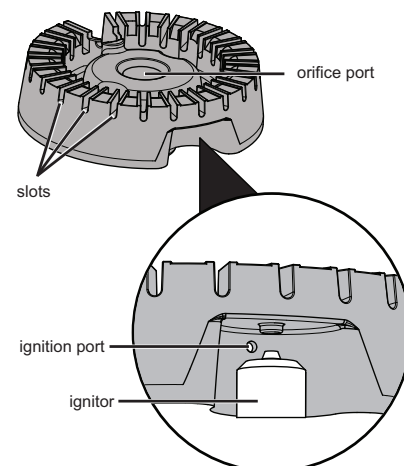

Figure 18: Sealed burner components
3. Use a toothbrush to clean all over the burner head (see Figure 18).
4. Use the toothbrush to clean the slots and holes in the burner (see Figure 18).
5. Use a needle or fine wire to clean out the ignition port (see Figure 18).